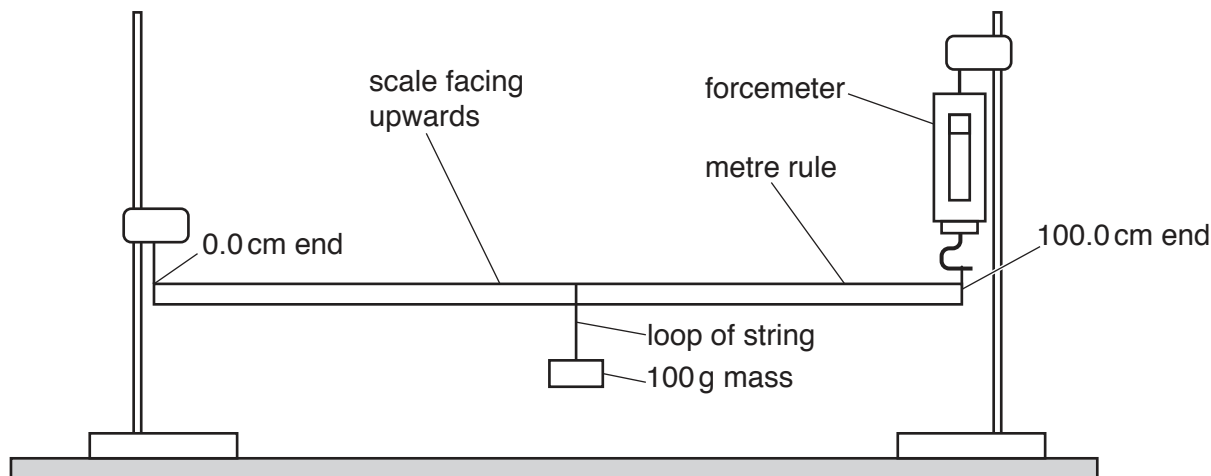

Fig. 3.2
4. The apparatus must be set up for the candidates as shown in Fig. 3.2, with the metre rule suspended between a clamp at the 0.0cm end and the forcemeter at the 100.0cm end. When the 100g mass is suspended at the 95.0cm mark, with the metre rule horizontal, the mass must be clear of the bench and the clamp holding the forcemeter must be below the top of the stand. The wires suspending the metre rule must be vertical. The 100g mass should be suspended near the centre of the rule.
Check that the apparatus is arranged as shown in Fig. 3.2 with the 100g mass near the centre of the rule.